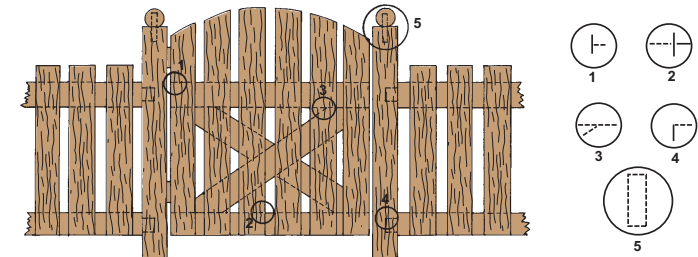

Figure 3-32. Rules for creating hidden lines in a drawing.
A few extra rules apply to hidden lines, as shown in **Figure 3-32**. For example, they almost always begin and end with a dash touching with the line where they start and end (1). However, this rule is not followed when the dash would continue a visible line (2). Dashes should join at corners (3) and (4). The dashes of parallel hidden lines that are close together should be staggered (5).